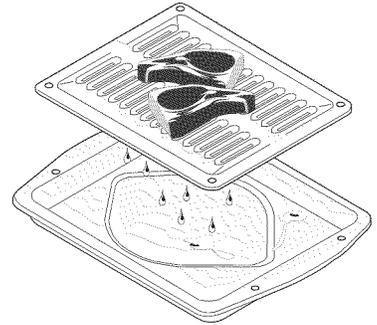

Fig.1 (some models)
5. Place the insert on the broil pan (if equipped), then place the food on the insert (if equipped; See Fig. 1). **DO NOT** use the broil pan without the insert or cover the insert with **aluminum foil**. The exposed fat could ignite.